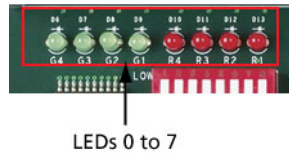

Figure 5-5. LEDs 0-7
3. Click each LED, one through 12. This individually lights up the LEDs on the board. LEDs 0 to 7 are shown in Figure 5-5. LEDs 8 to 12 are scattered around the board.